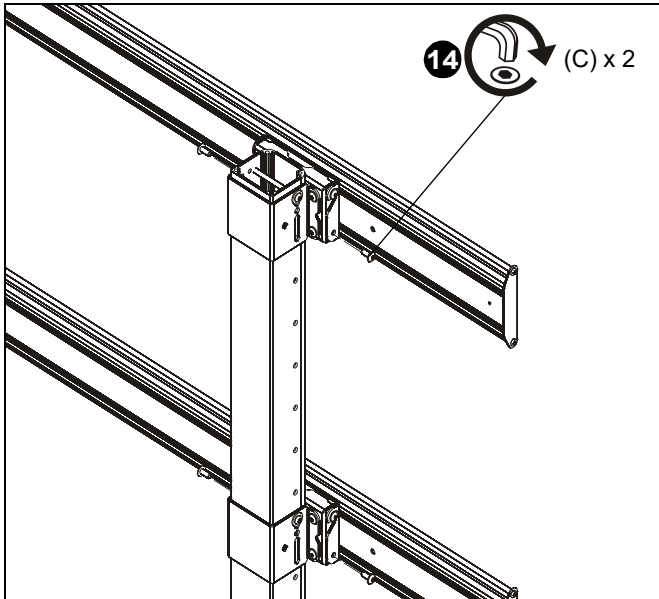

Figure 9
14. Install two 5/16-18 x 3/4" button head flange screws (C) into the lower holes on each quick connect base (J) to secure rails to quick connect bases. (See Figure 9)
15. Tighten all 5/16-18 x 3/4" button head flange screws (C).